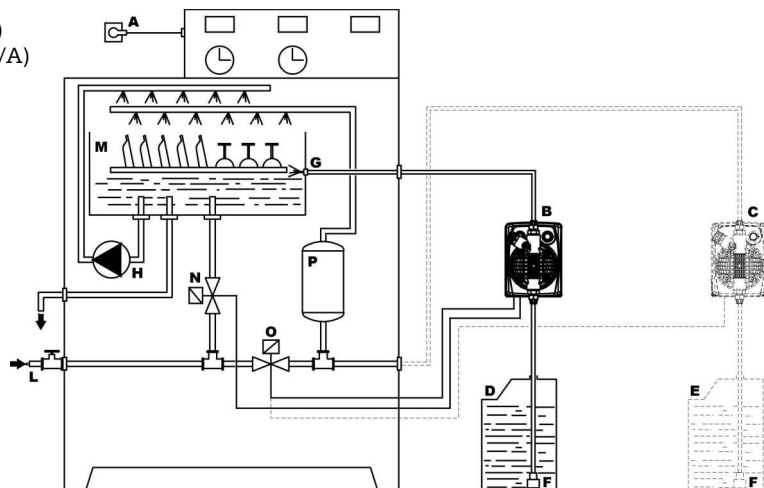

Fig. 12
5.3 - SCHEMA DI IMPIANTO TIPICO LAVASTOVIGLIE MONOVASCA A DUE ELETTROVALVOLE (Fig. 12)